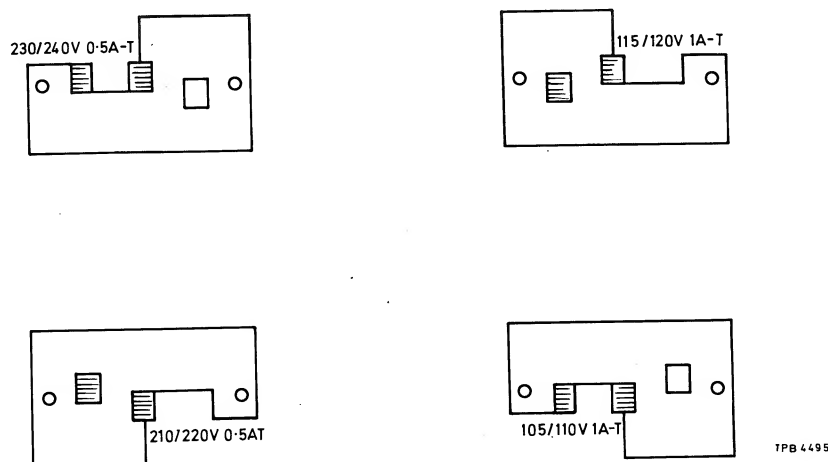

Fig. 1 Voltage ranges (alternative switch and locking plate positions)
4. Before connecting the instrument to the a.c. supply check the position of the two voltage selector switches on the rear panel. A locking plate fixes both switches into one of four possible combinations and only the selected voltage range is displayed when the locking plate is fixed to the back panel. The instrument is normally despatched with the switches selected to 230/240 V. To select a different voltage range remove the locking plate and re-position the switches to the required range as shown in Fig. 1 below and refit the locking plate into its alternative position.